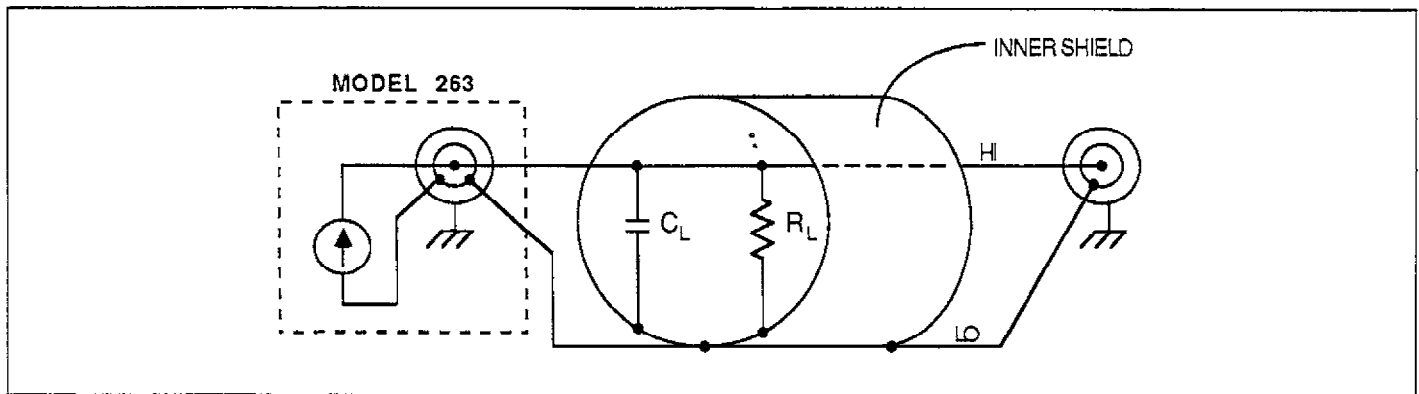

Figure 3-8. Unguarded Circuit
In general, the purpose of guarding is to eliminate leakage resistance and capacitance that exist between output high and output low. In the unguarded configuration (see Figure 3-8), leakage occurs between the center conductor (HI) and the inner shield (LO) of the output triax cable. This leakage (through R_i and C_i) may be enough to adversely affect the output level and response time of the source.